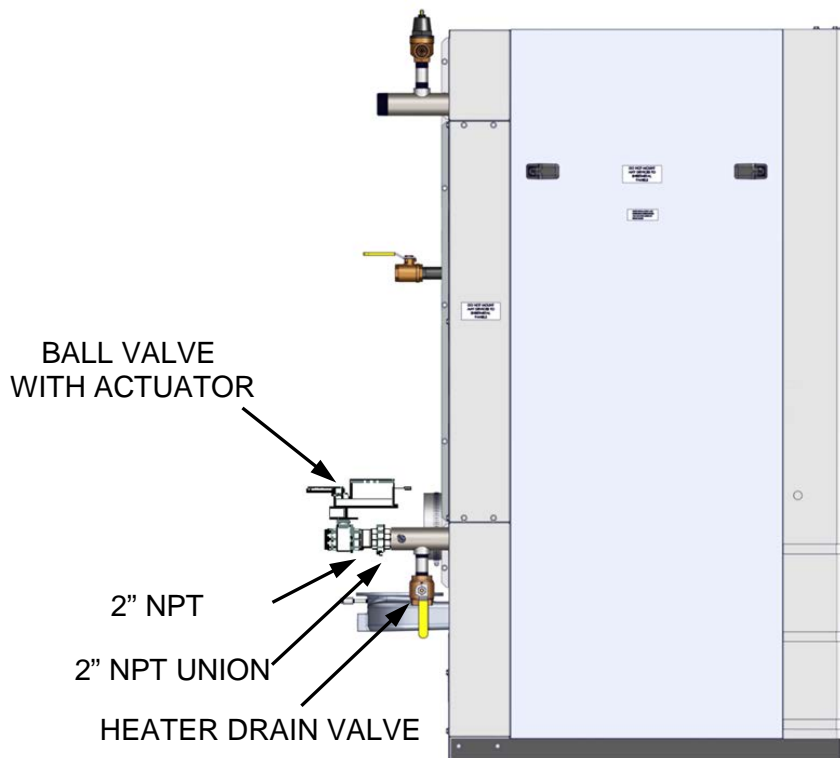

Figure 2-3b. Innovation Water Heater Equipped With Sequencing Valve
If the Innovation Water Heater was ordered for use with the C-More Water Heater Management (WHM) system and the actuator-controlled ball valve is not already installed on the unit (Figure 2-3b), it will be packed separately within the shipping container. If installation is required, proceed as follows:
3. Ensure that the valve is positioned with the actuator enclosure position as shown in Figure 2-3b.